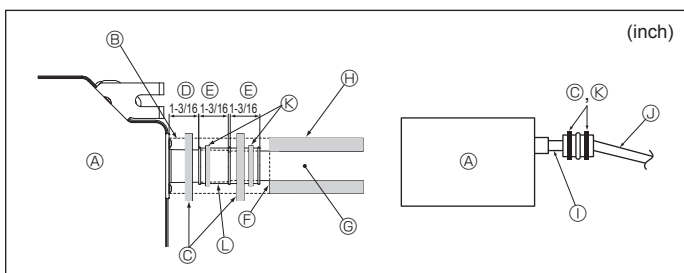

Fig. 6-2
- ⑨ O. D. $\phi 32$ mm (1-1/4 inch) PVC TUBE
- ⑩ Make it as large as possible
- ⑪ Indoor unit
- ⑫ Make the piping size large for grouped piping.
- ⑬ Downward slope (1/100 or more)
- ⑭ O. D. $\phi 38$ mm (1-1/2 inch) PVC TUBE for grouped piping (9 mm (11/32 inch) or more insulation)
- ⑮ Up to 850 (33 inch)
1. Connect the drain socket (supplied with the unit) to the drain port. (Fig. 6-2) (Affix the tube using PVC adhesive then secure it with a band.)